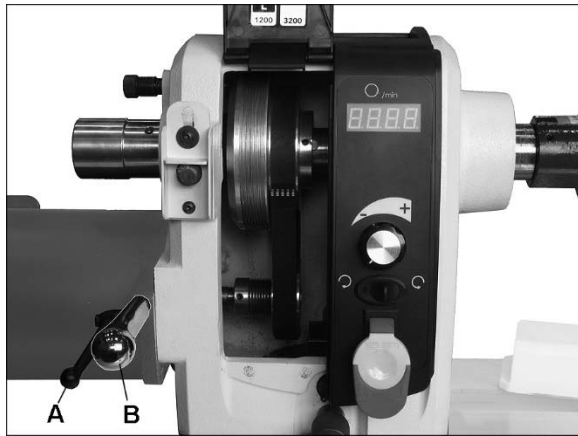

Figure 7-13: speed range adjustment
See Figure 7-13.
3. Loosen pivot lock handle (A, Figure 7-13) and lift up tension handle (B) to raise motor. Tighten pivot lock handle (A) to hold motor in raised position.